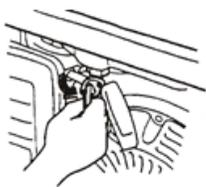

Figure 22
6.4 Set the fuel switch to ON position (Figure 22)